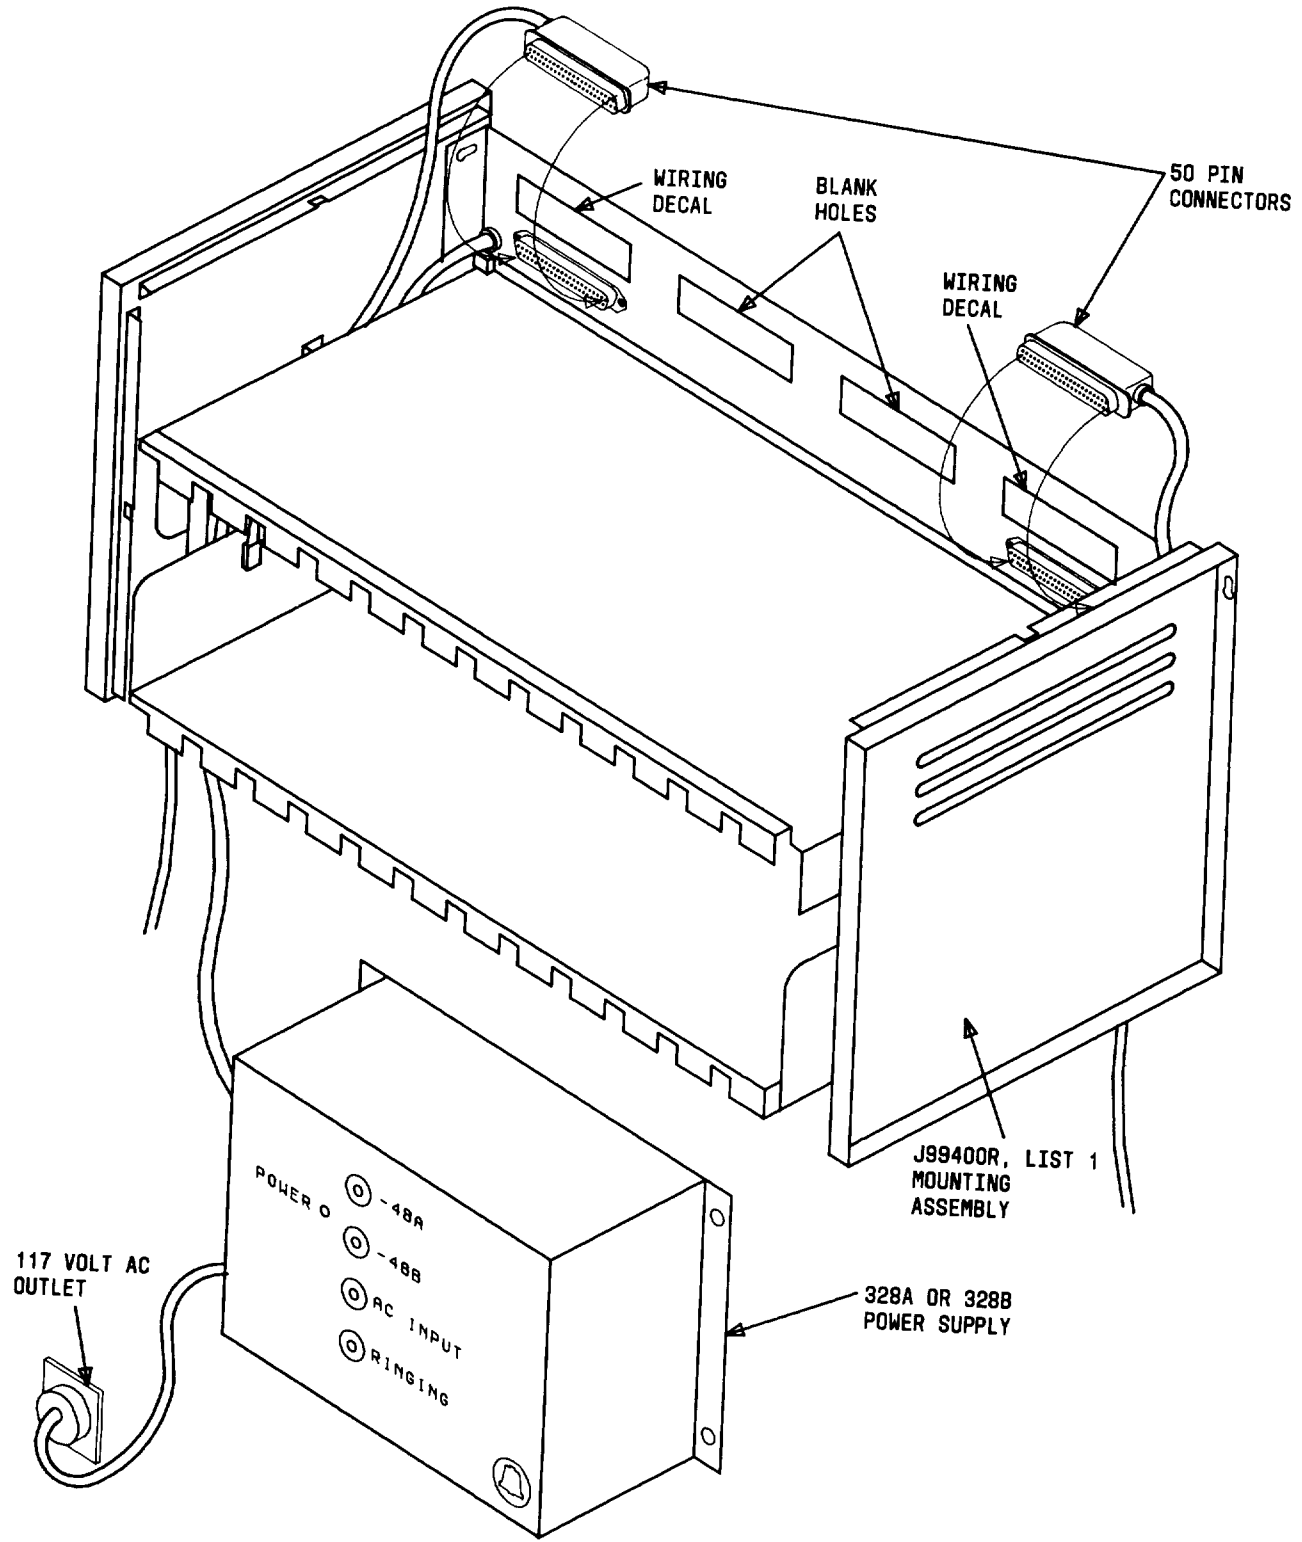

Fig. 1—J99400R Housing Assembly—Double-Module Arrangement for Six MFT Circuits
2.01 The J99400R assembly consists of a double-module shelf arrangement which will accommodate up to six MFT circuits (12 plug-ins, alternating transmission units and signaling units). The J99400R assembly shown in Fig. 1 is available in combinations of the following list numbers:
2.05 The 328A power supply which will accept commercial 117 volt ac input and will supply two -48 volt dc outputs (-48A and -48B). The 328A power supply has a 1.75 ampere circuit breaker on the 117 volt ac input and 1.75 ampere circuit breakers on each of the -48 volt dc outputs. The location of these circuit breakers and the POWER ON indicator is shown in Fig. 1. If a circuit breaker should trip, the center button will extend. The circuit breakers are reset by pushing this center button. If 20-Hz ringing is required, use of the 328B power supply/frequency generator or other external ringing source is recommended.
2.07 The 328B power supply/frequency generator which will accept commercial 117 volt ac input and will supply two -48 volt dc outputs (-48A and -48B) and a 20-Hz ringing signal. The 328B power supply/frequency generator has a 1.75 ampere circuit breaker on the 117 volt ac input, a 1.75 ampere circuit breaker on each of the -48 volts dc outputs, and a 1.0 ampere circuit breaker on the 20-Hz ringing output. The location of these circuit breakers and the POWER ON indicator is shown in Fig. 1. If a circuit breaker should trip, the center button will extend. The circuit breakers are reset by pushing this center button.
4.03 Cabling to the J99400R housing is routed up through the bottom of the housing to the 50-pin ribbon type connectors at the upper rear of the housing as shown in Fig. 1. Typically, cabling from the network interface is routed to the A-side connector (J13) and connected according to circuit function as indicated on the decal adjacent to the connector. The cabling to the central office is typically connected to the B-side connector (J14). Connections to the power and ringing supplies are made by plugging the power cable into the appropriate power supply. Additional installation instructions are given in Section 332-610-204.